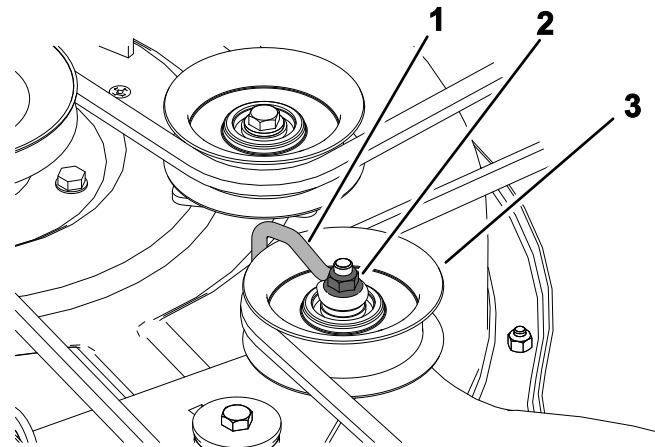

Figure 51
5. For stamped decks, loosen the nut securing the wire form to the idler pulley (Figure 51).
9. For stamped decks, tighten the nut securing the wire form to the idler pulley (Figure 51).
**Note:** Position the wireform against the idler arm as shown in Figure 51.